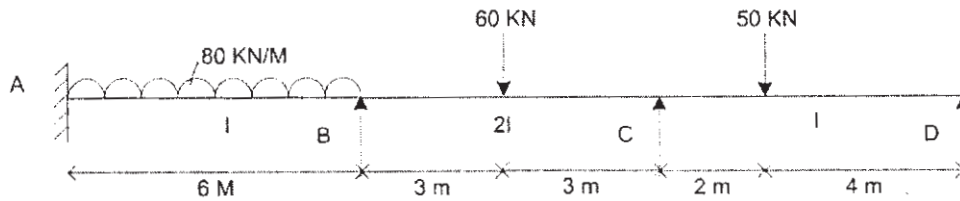

Fig Q.8
**Q8)** Analyze the beam as shown in fig.Q.8 by using Flexibility Method. Draw SFD & BMD. [16]
**Q9)** Analyze the Continuous beam as shown in fig.Q.8 by using Stiffness Method. Draw Deformation Curve, SFD & BMD. [16]